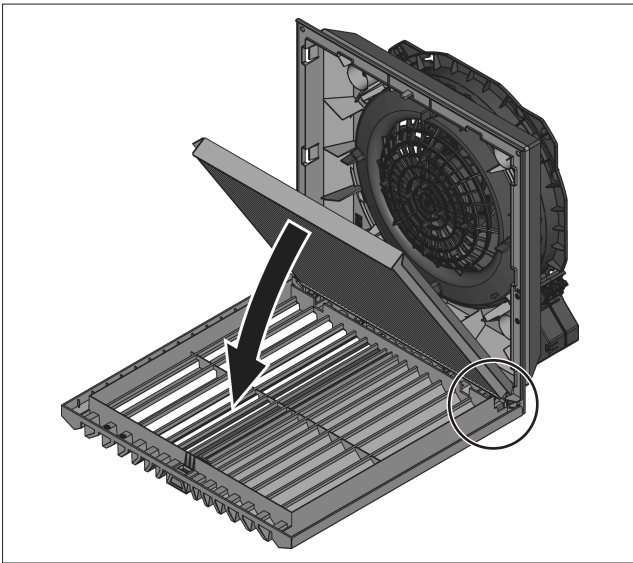

Fig. 14: Installing the IP54 pleated filter
- Place the new pleated filter in the louvred grille. The "Top" logo indicates the insertion direction (see fig. 14).